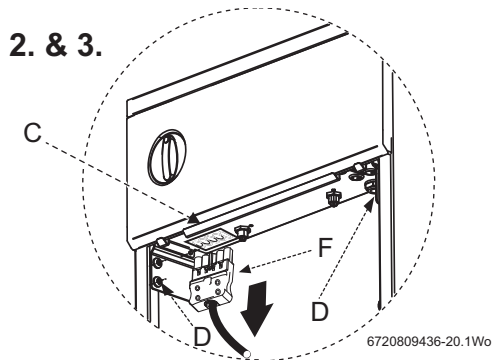

Fig. 78 Burner lead
1. Pull front panel (A) forward from the bottom and near the top disengaging the ball studs from their connections (B) and lift off the ledge (C) that runs along the bottom of the fascia (→ figure 78) to remove and store safely away from the working area.